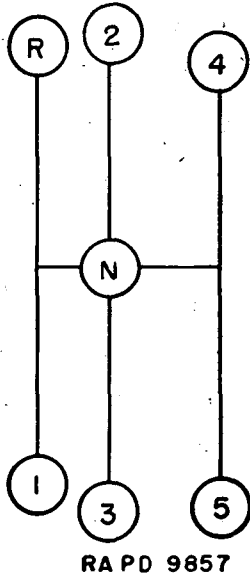

FIGURE 9.—Gear shift positions.
The positions of the gear shift lever for the various speeds are shown in the diagram (fig. 9).
(1) Disengage the clutch by pressing clutch pedal down to the floor and holding it down.
(2) Move the gear shift lever into second gear, as shown in figure 9, for normal operation. First gear will be used only when shifting vehicle in building or over obstacles or descending extreme grades.
(3) Gradually release the clutch pedal, at the same time depressing the foot throttle. Except when under fire, do not move the vehicle in or out of close quarters without the aid of personnel outside of the vehicle serving as a guide.
(4) When the vehicle has started and is moving with engine speed of 2,000 rpm, release the foot throttle, depress the clutch again, and move the gear shift lever into the third gear position. Release the clutch and again depress the throttle to pick up the load of the vehicle.
(5) The procedure in (4) above is repeated until the highest gear is reached which will enable the vehicle to proceed at the desired speed without causing the engine to labor. Do not ride the clutch. The driver's left foot must be completely removed from the clutch pedal while driving, to avoid unnecessary wear on the clutch.
(6) To place the vehicle in reverse gear a complete stop must be made, the throttle closed until the tachometer reads 400 rpm (lowest idling speed). Depress the clutch pedal and move the gear shift lever to the reverse position (fig. 9). Backing the vehicle should never be attempted unless an observer is stationed in front to guide the driver.
(7) To steer, pull back the right hand steering lever to make a right turn or the left hand lever for a left turn. This action brakes the track on the inside of the turn and speeds up the outside track. The driver should anticipate each turn and be ready to apply more power as it is needed to compensate for the braking effort. The hands should be free of the steering lever when not actually steering the tank.
(8) To stop the vehicle, release the throttle and pull back on both steering levers at the same time, depressing the clutch when the vehicle has slowed down to approximately two to five miles per hour, depending upon which gear is being employed before stopping. If the vehicle is to remain stopped, turn the knobs on the top of the steering levers 90° to hold the brakes on and shift transmission into neutral. Set the hand throttle for a tachometer reading of 800 rpm for the duration of the halt.
(9) The tachometer, the oil temperature gage, and the oil pressure gage give the most satisfactory indications of the engine's performance. Should the indications of any of these instruments appear to be irregular, the engine should be throttled down and the cause investigated. The oil temperature should not exceed 190° F.